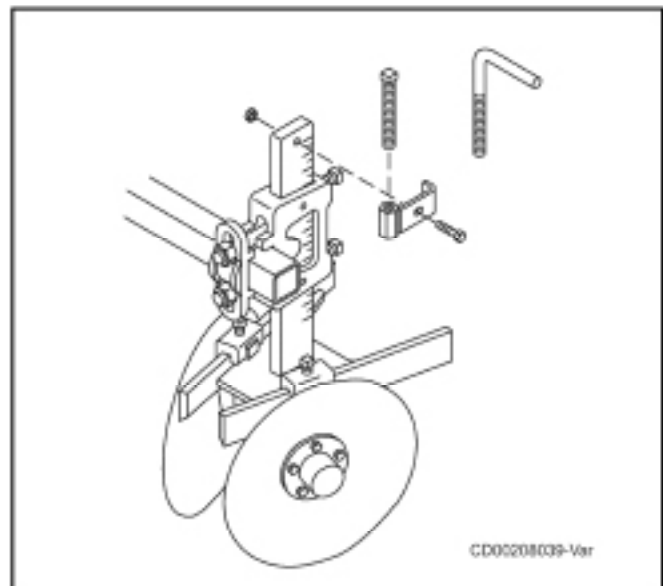

Figure 52 Adjustable Screw Kit
2. Thread the 5/8 x 4-1/2" square head set screw or crank into the adjustment nut as shown in Figure 52.